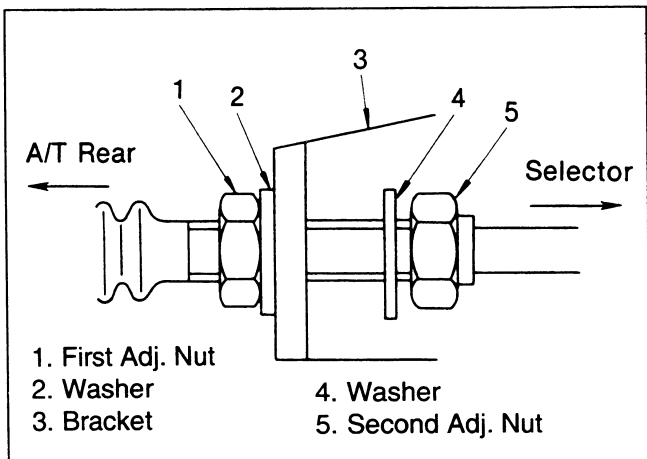

Figure 12. Adjusting Control Cable
**Adjust (Figure 12)**
- 4) Hand-tighten the first adjusting nut (1) until its plane washer (2) makes contact with the transmission side bracket (3).
- 5) Hand-tighten the second adjusting nut (5) until its plane washer (4) makes contact with the transmission side bracket (3).
- 6) Back off the second adjusting nut (4) 1/2 of a turn.
- 7) Tighten the first adjusting nut (1).